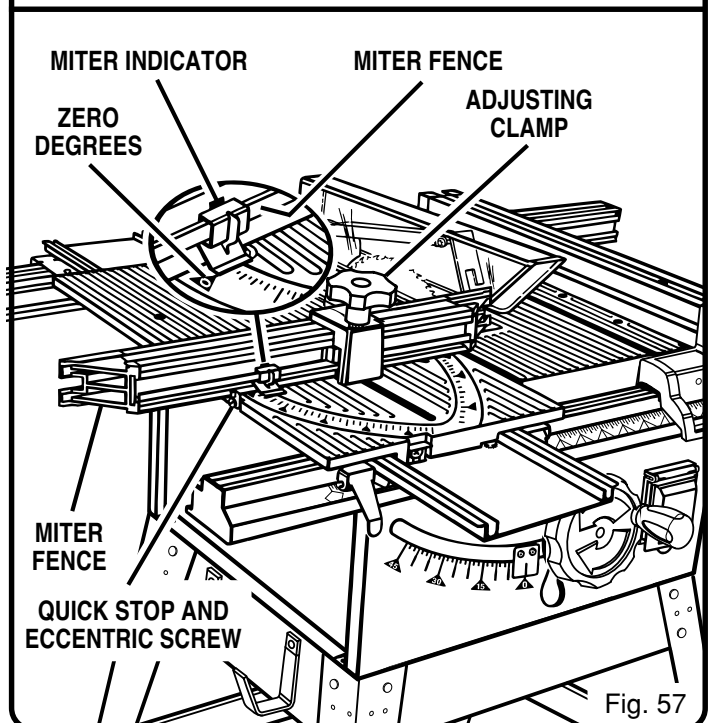

Fig. 57
- Place the quick-stop against the miter fence with miter scale set at 0°. See Figure 57.